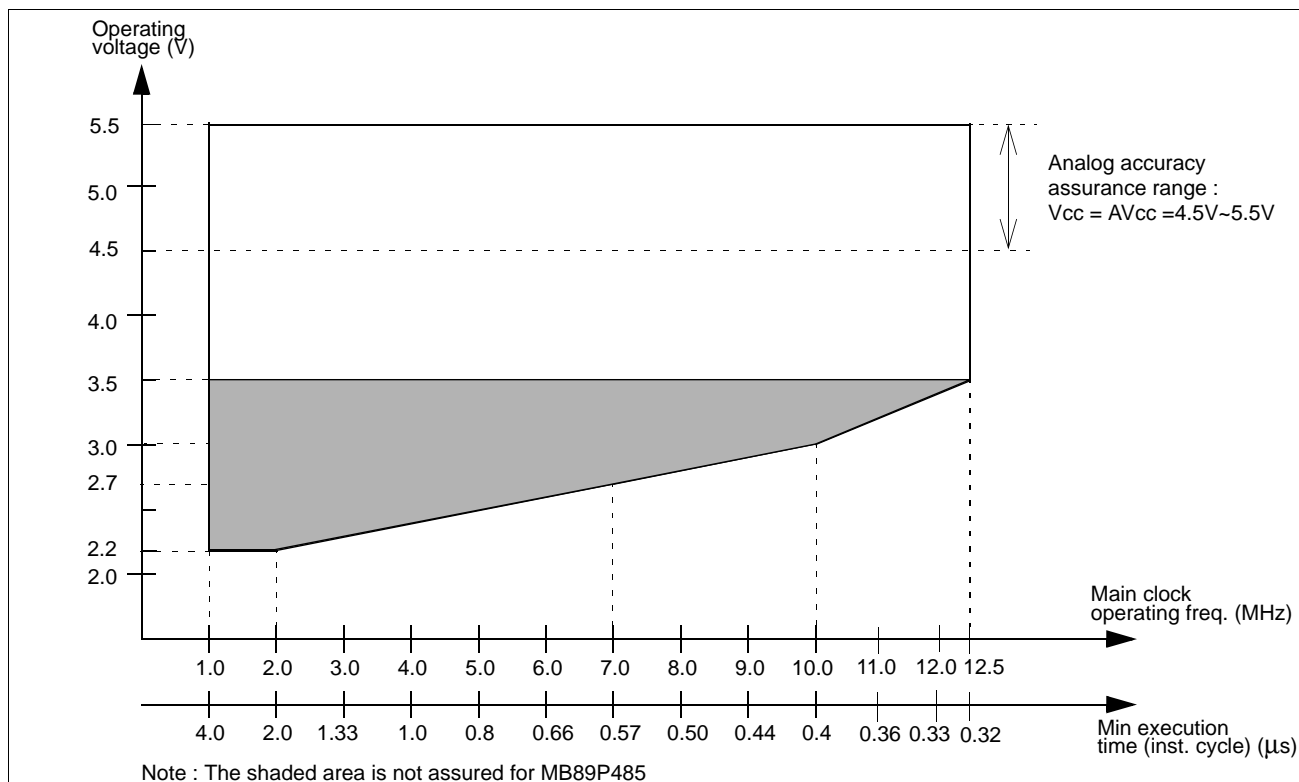

Figure 1 Operating Voltage vs. Main Clock Operating Frequency (MB89P485/485)
* : These values depend on the operating conditions and the analog assurance range. See Figure 1, 2, 3 and "5. A/D Converter Electrical Characteristics."